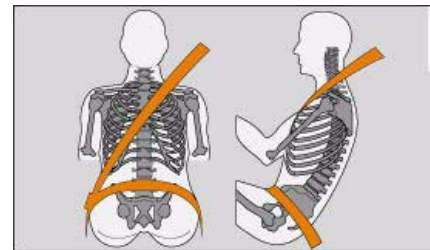

Fig. 173 Adjusting shoulder and lap belt ▶
- The diagonal part of the belt should never be positioned across the neck, but roughly over the centre of the shoulder; it should fit closely against the upper part of the body. The lap part of the belt must be worn tightly across the hips, and not over the abdomen ⇒ *page 163, fig. 173*. Pull the belt tight if necessary to take up any slack.